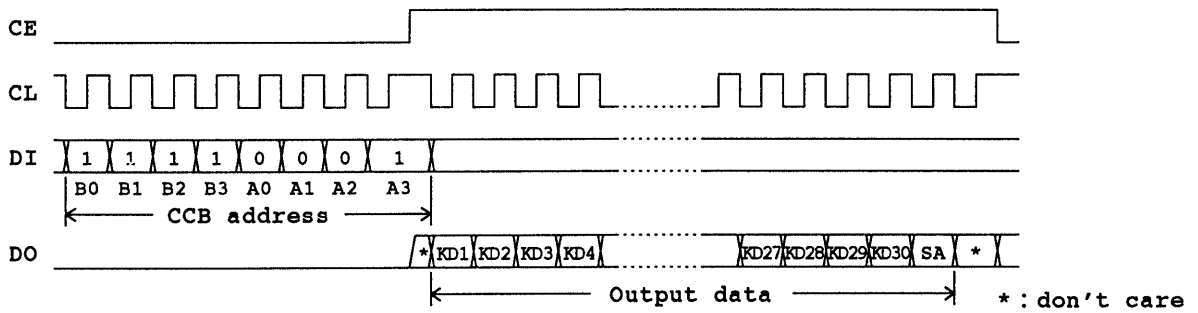

Figure 3
- CCB address: Applications must send the value 11110001_B (8F_H) as shown in figure 3.